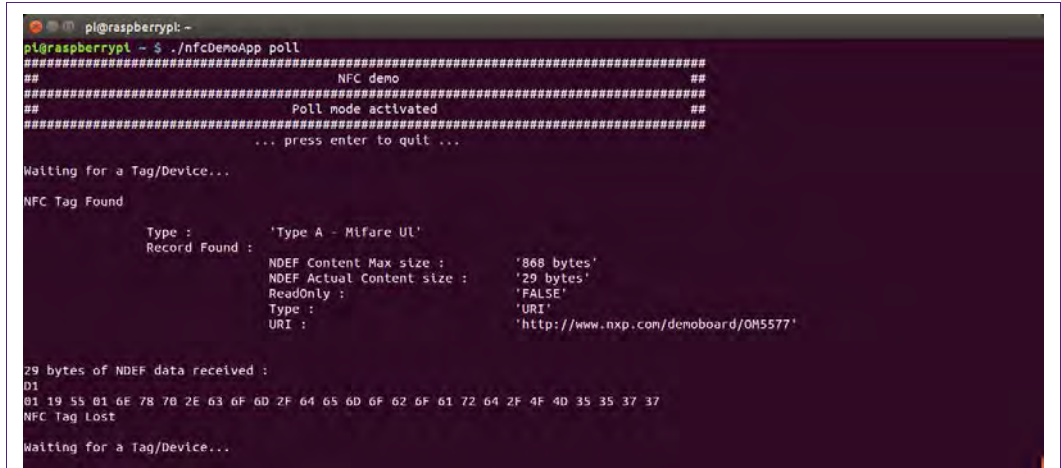

Fig 4. Linux demo application polling mode
- Fig 4. Linux demo application polling mode 13